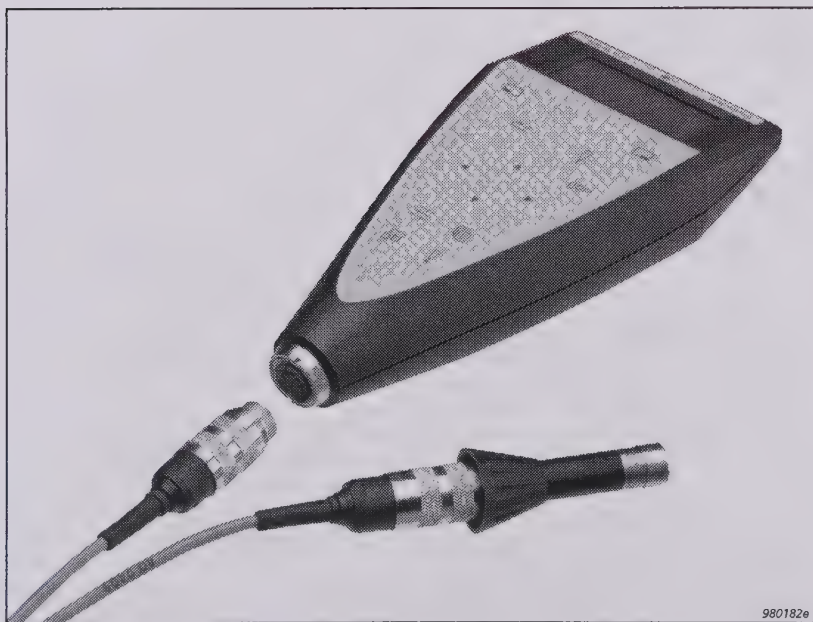

*Fig.2.3 Connecting a microphone extension cable to the sound level meter*
2. Insert the other end of the microphone extension cable into the input stage socket and secure by turning the threaded retaining ring. (see Fig. 2.3).